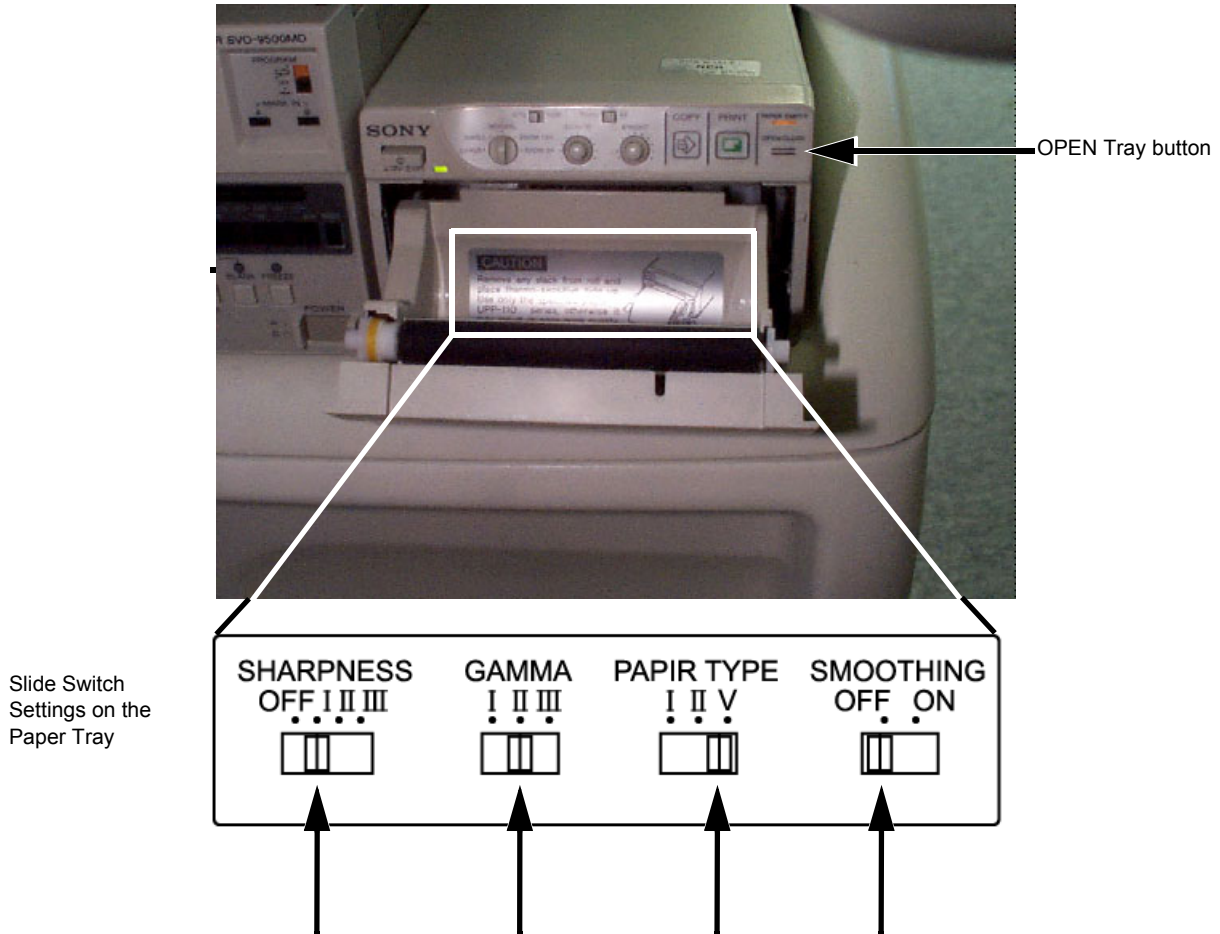

Figure 8-111 B/W Video Printer, Slide Switches Location and Settings on the Paper Tray
- 2.) Ensure that the switches on the Paper Tray are set as shown in Figure 8-111 below.